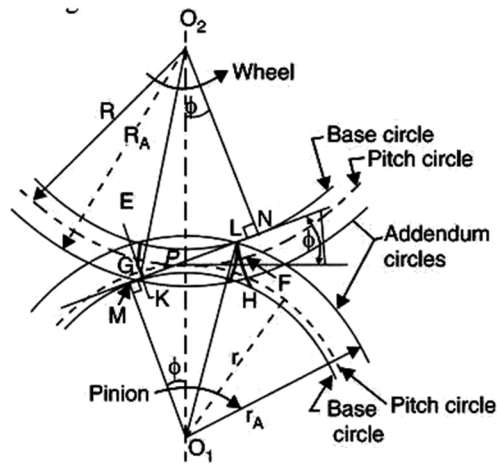

Fig. Q1 (c)
- c) Consider a pinion driving a wheel as shown in **Fig. Q1 (c)**. When the pinion rotates in clockwise direction, the contact between a pair of involute teeth begins at *K* and ends at *L*. *MN* is the common normal at the point of contacts and the common tangent to the base circles. The point *K* is the intersection of the addendum circle of wheel and the common tangent. The point *L* is the intersection of the addendum circle of pinion and common tangent.